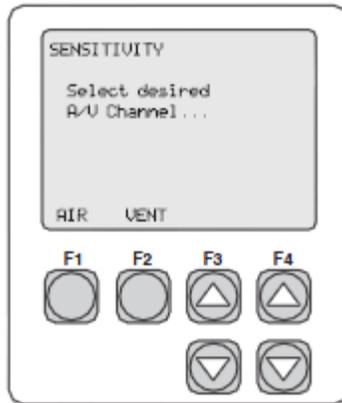

Fig. 6
- *Select F1 “Atr” per Fig 6.*